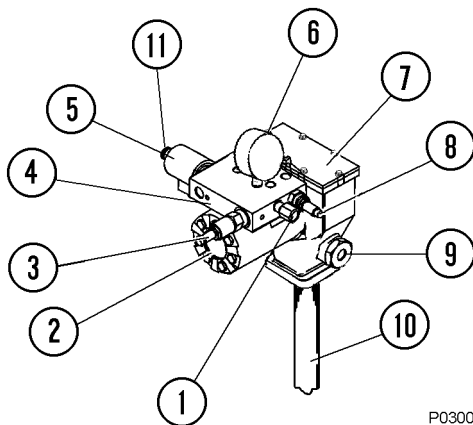

FIGURE 42-1. PUMP COMPONENTS
Grease output is proportional to the hydraulic motor input flow. A pump control manifold (4, Figure 42-1), mounted on top of hydraulic motor (2), controls input flow and pressure. 24VDC solenoid (5) mounted on the manifold turns the pump on and off.
Hydraulic motor and grease pump (16 & 4, Figure 42-3) is a hydraulically operated grease pump. Integrated pump control manifold (4, Figure 42-1) is incorporated with the motor to control input flow and pressure.